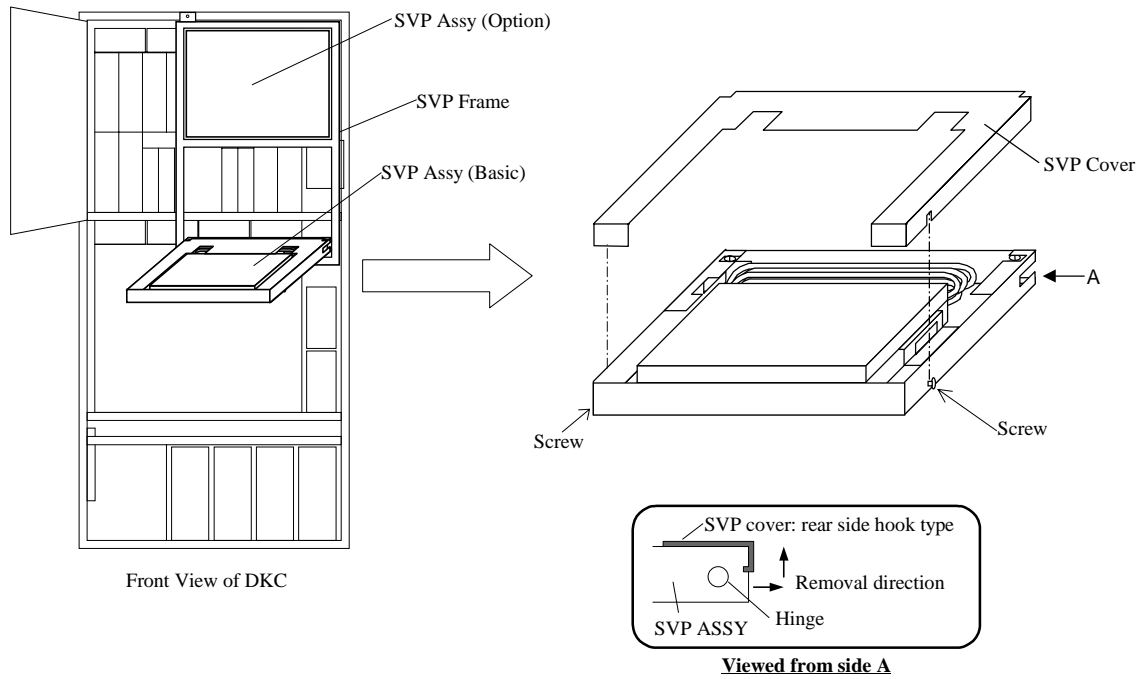

Fig. 3.15-10 Removing SVP cover
- Attach the SVP cover. (See Fig. 3.15-10.)